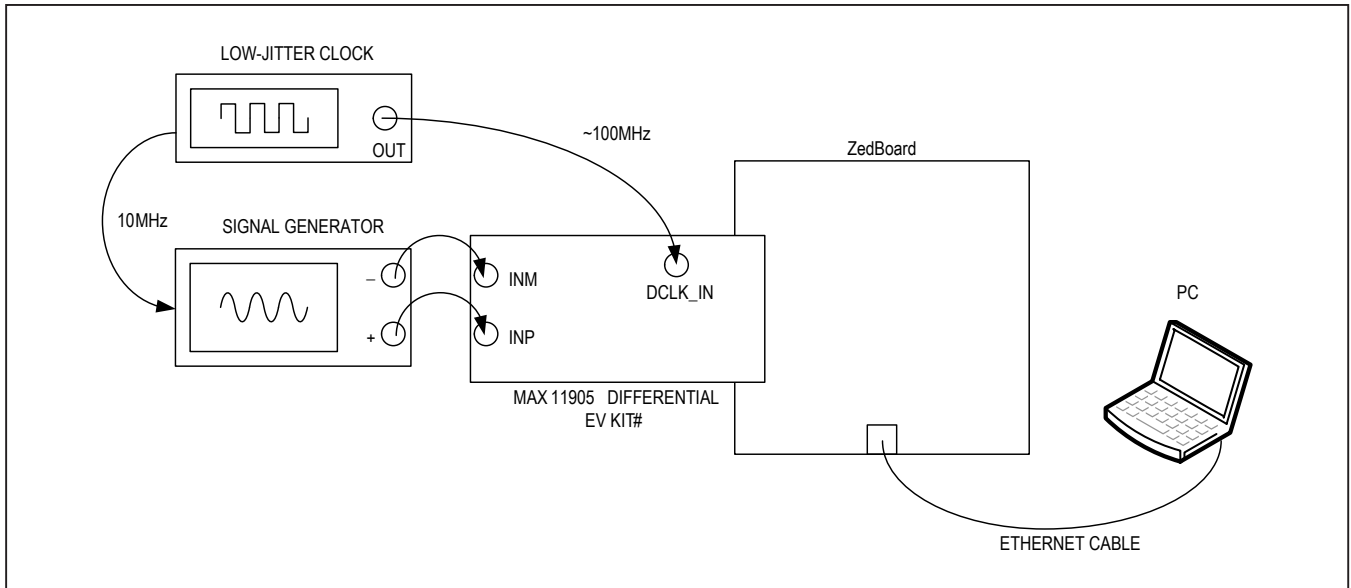
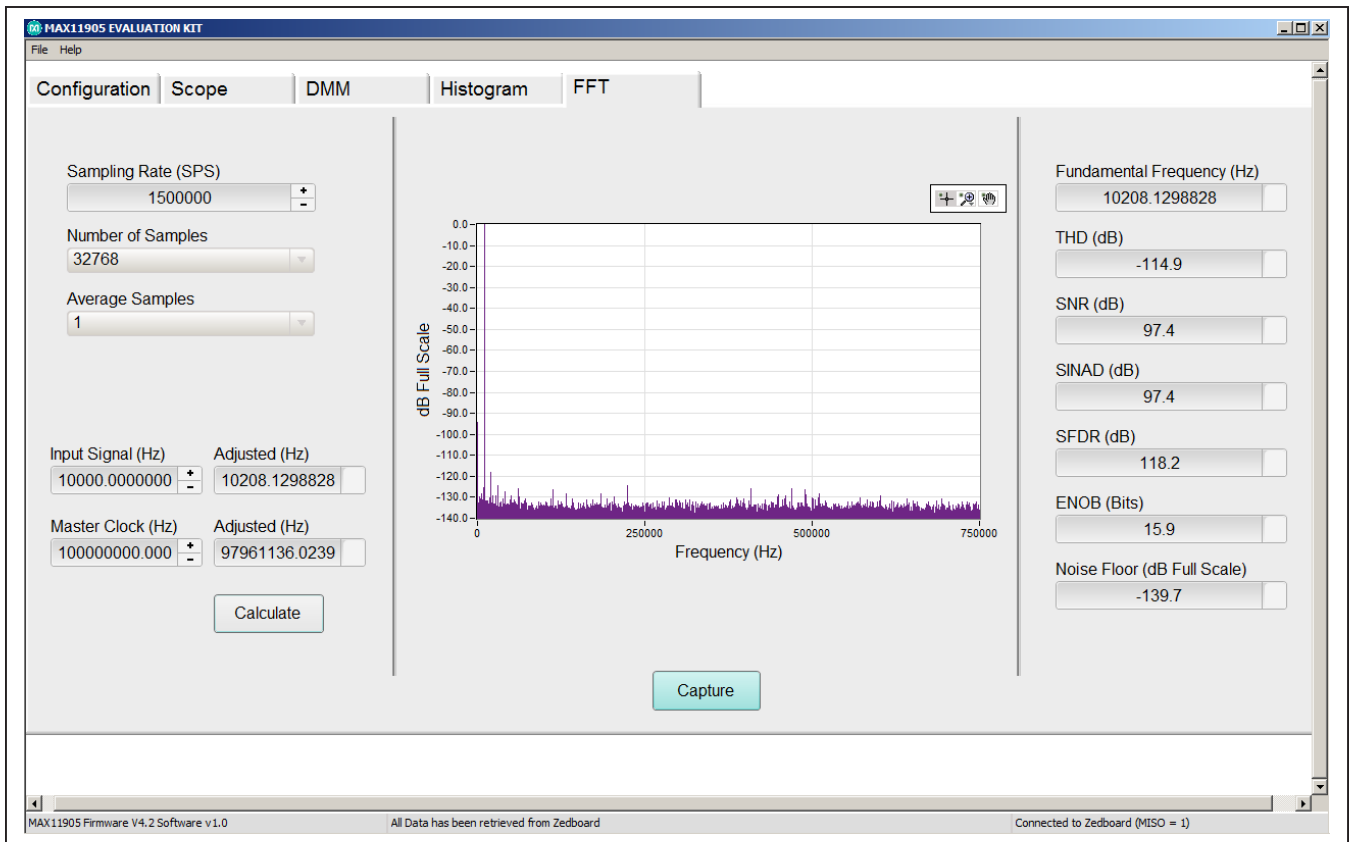
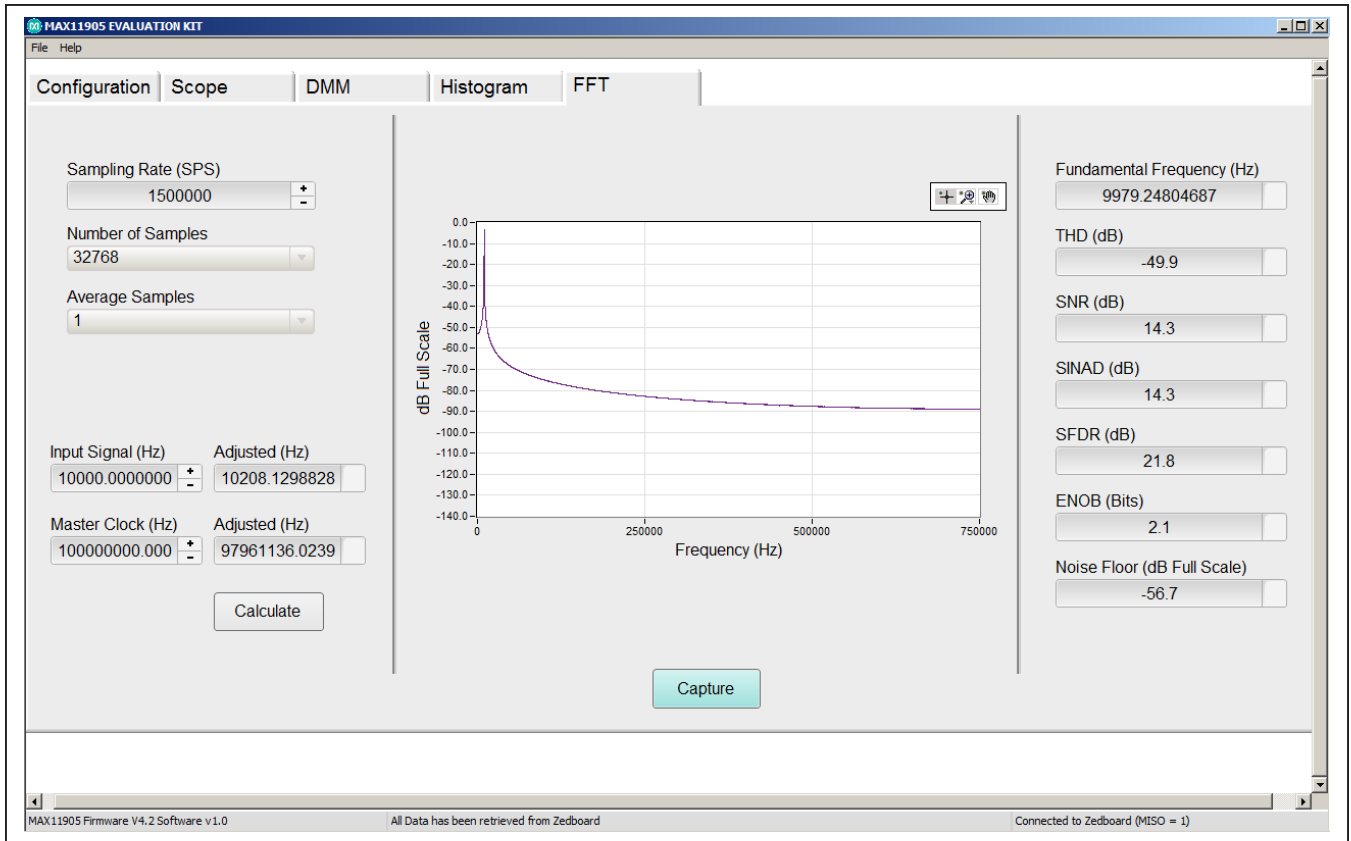

Figure 5. MAX11905 Differential EV Kit Coherent Sampling Setup
Figure 6. MAX11905 EV Kit Main Window, Coherent Sampling Results (FFT Tab)
Figure 7. MAX11905 EV Kit Main Window, Noncoherent Sampling Results (FFT Tab)
- 20) Click on the **FFT** tab (Figure 6) and start capturing data.
The **FFT** tab sheet (Figure 6) is used to display the FFT of the data. Sampling rate and number of samples can also be set in this tab if they were not adjusted appropriately in other tabs. When coherent sampling is needed, this tab sheet allows the user to calculate the input frequency or the master clock coming into the board. Either adjust the input frequency applied to the signal generator or adjust the master clock applied to the DCLK_IN SMA connector. See the *Sync Input and Sync Output* section before using this feature. Once the desired configuration is set, click on the **Capture** button. The right side of the tab sheet displays the performance based on the FFT, such as fundamental frequency, THD, SNR, SINAD, SFDR, ENOB, and noise floor.
Figure 5 is the setup Maxim uses to capture data for coherent sampling.
Note: If the results do not look similar to Figure 6 and more similar to Figure 7, then check all connections in Figure 5 to make sure the setup is synchronizing properly.